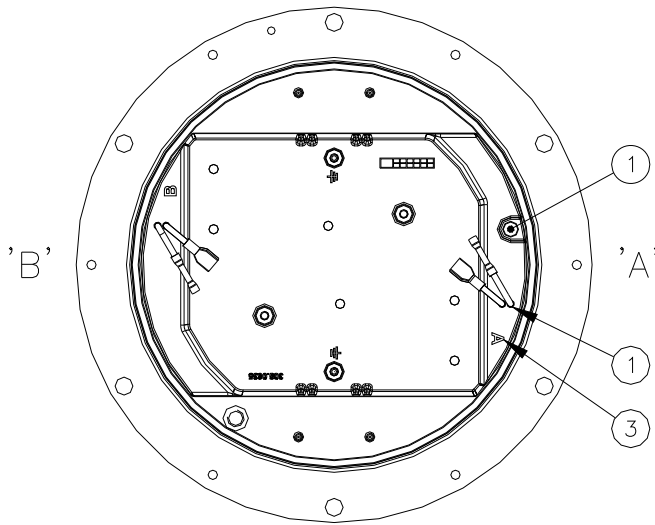

*Figure 2 – Lower Cover Outside View*
An identification data label is applied to the lower cover (Figure 2 – n°2). Moreover, to identify quickly the beam color, the letter "A" of the dome in front of the window is painted in the same color of the light beam.
- ▣ Method “B” – cable leads to be laid in cable ducts (Figure 2)